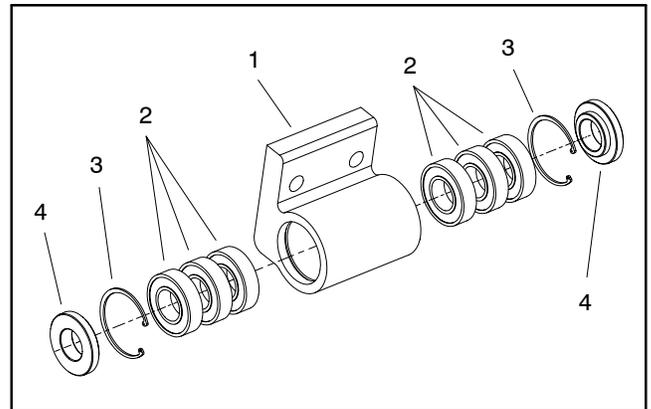

Figure 7
5. If necessary, disassemble hinge assembly using Figure 7 as a guide.